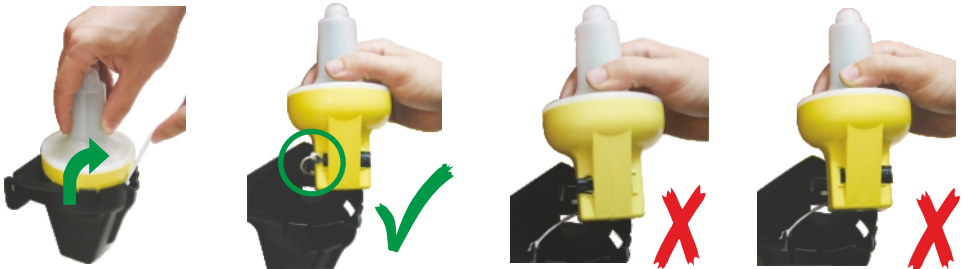

Fig 7: Fig Extraction of the Lifebuoy Light from the holding bracket and switch plug check
2. Extract gently the light from the holder base and check that the switch plug is fitted on the switch (Fig 7).